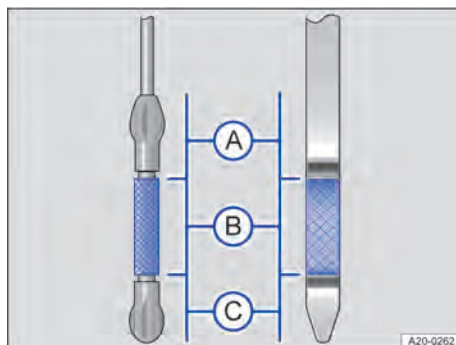
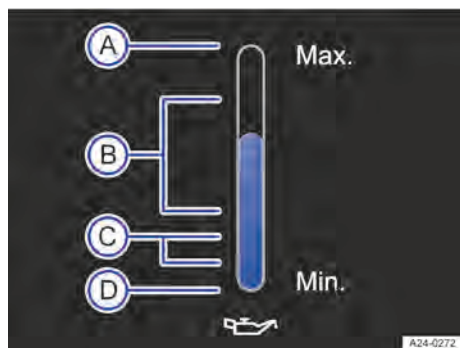

Fig. 200 Oil dipsticks with engine oil level marking (illustration).
Fig. 201 In the infotainment system: oil level display (illustration).
3. Pull out the oil dipstick again and read the engine oil level on the dipstick as follows → Fig. 200:
4. Read the engine oil level from the dipstick or the digital engine oil level display again before adding a further small quantity of engine oil. After filling, the engine oil level should be in the middle of the area → Fig. 200 or → Fig. 201 Ⓑ.
5. If too much engine oil has been added accidentally and the engine oil level is then above the area → Fig. 200 or → Fig. 201 Ⓐ, do not activate the vehicle's drive system → ⚠. Seek expert assistance.